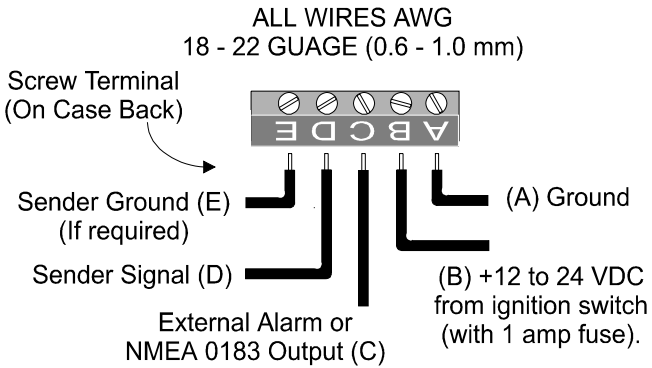

Figure 2
driver to make the connections to the screw terminal on the instrument case back as shown in figure 2.
- Carefully check all your wiring against those shown in figure 2. If everything is wired correctly you can mount the OP60 in the instrument hole. Be sure the bulkhead gasket is in place and use only finger tension to tighten the bracket hold-down nuts *Do not overtighten the bracket or you may damage the case - do not use tools to tighten the nuts.*